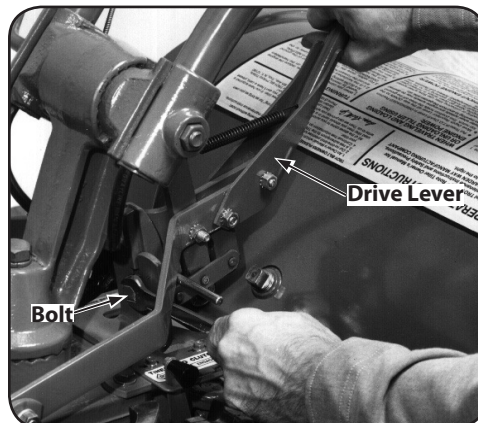

Figure 5-17
5. Use one hand to hold the drive lever in FORWARD while using a $\frac{5}{16}$ " wrench to loosen — don't remove — the bolt at the back of the belt adjustment block. See Figure 5-17. The adjustment block should be free to move either up or down.